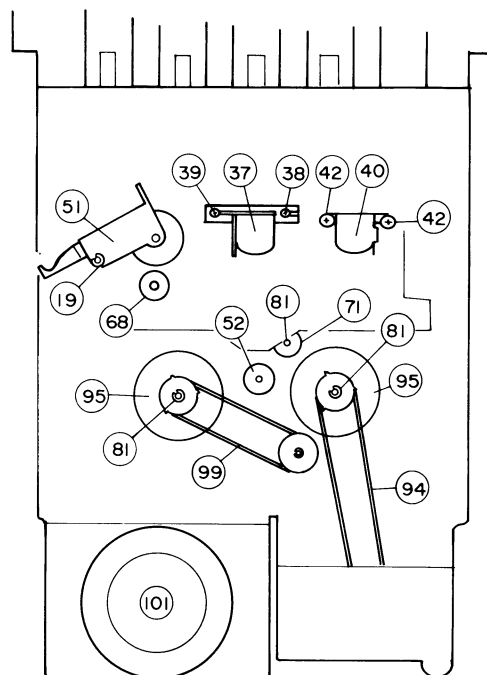

Fig. 7
Note: Reference numbers of Figs. 7 & 8 are the same as on Fig. 25.
Note: Be sure not to lose the nylon washer (68) as shown in Fig. 7.
K. Motor Ass'y (101)